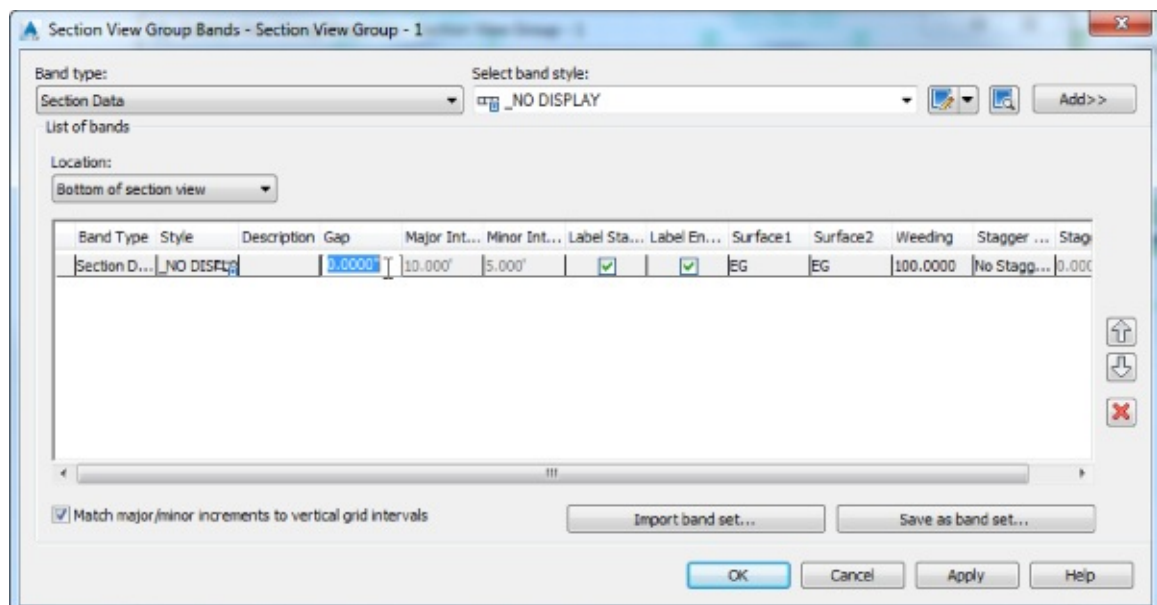

Figure 19.67 Add the data : band and set the gap to 0.
- Set the Gap distance to **0**, as shown in Figure 19.67, and click OK to dismiss the Section View Group Bands dialog.